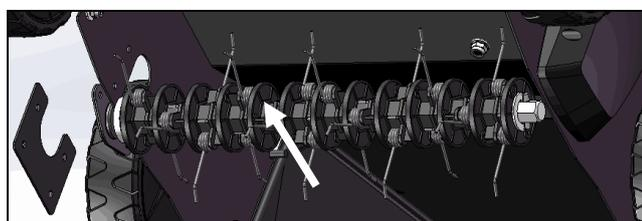
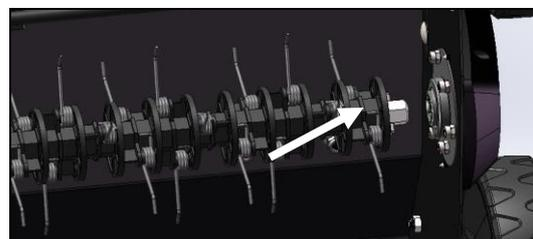
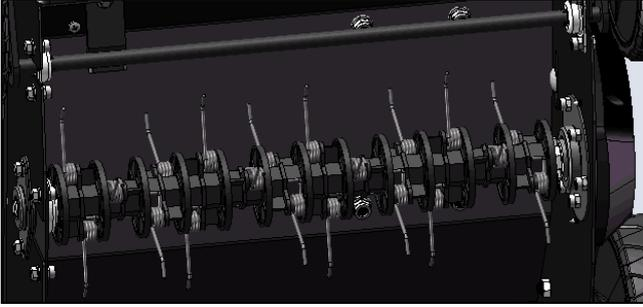

Fig.11F
Fig.11G
Fig.11H
4. Assemble aerator shaft the same as the scarifier shaft. (Fig.11F/ Fig.11G/ Fig.11H).